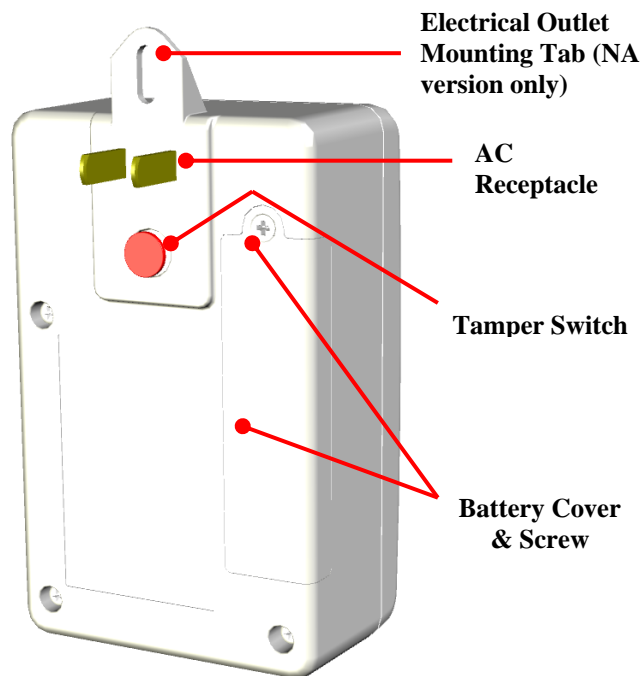

Figure 2. Rear View
- SMCSR01-Z (North American version) — includes an Electrical Outlet Mounting Tab (see Figure 2 on page 2)